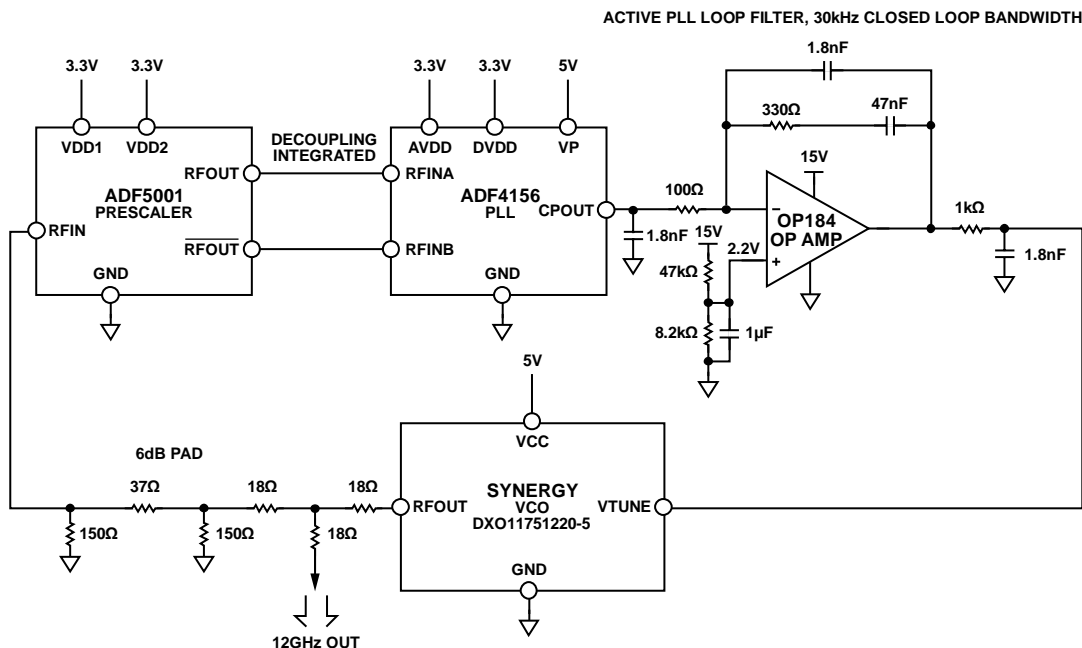

Figure 1. Low Noise Microwave Fractional-N PLL (Simplified Schematic: All Connections and Decoupling Not Shown)
A block diagram of the circuit is shown in Figure 1. A 12 GHz VCO from Synergy Microwave Corporation, the DXO11751220-5, was chosen for this circuit, although any VCO operating from 4 GHz to 18 GHz would also work, provided the loop filter is redesigned appropriately. As with the majority of microwave VCOs, the Synergy VCO has a wide input tuning range of 0.5 V to 15 V, which requires an active PLL loop filter to interface between the lower voltage ADF4156 charge pump (maximum output of 5.5 V) and the VCO input. The OP184 was chosen as the op amp for the active loop filter because of its excellent noise performance, as well as its input
It is recommended to set the bias voltage level to approximately half the charge pump supply (VP), as this meets both the input voltage range requirements with plenty of margin and gives best charge pump spur performance. Measurements for this circuit note were taken with VP = 5 V and op amp common-mode bias = 2.2 V. To help minimize any reference noise feed-through, a large decoupling capacitor of 1 $\mu$ F was placed close to the noninverting op amp input pin as shown in Figure 1. This capacitor with the 47 k $\Omega$  resistor forms an RC filter with a cut-off below 10 Hz.